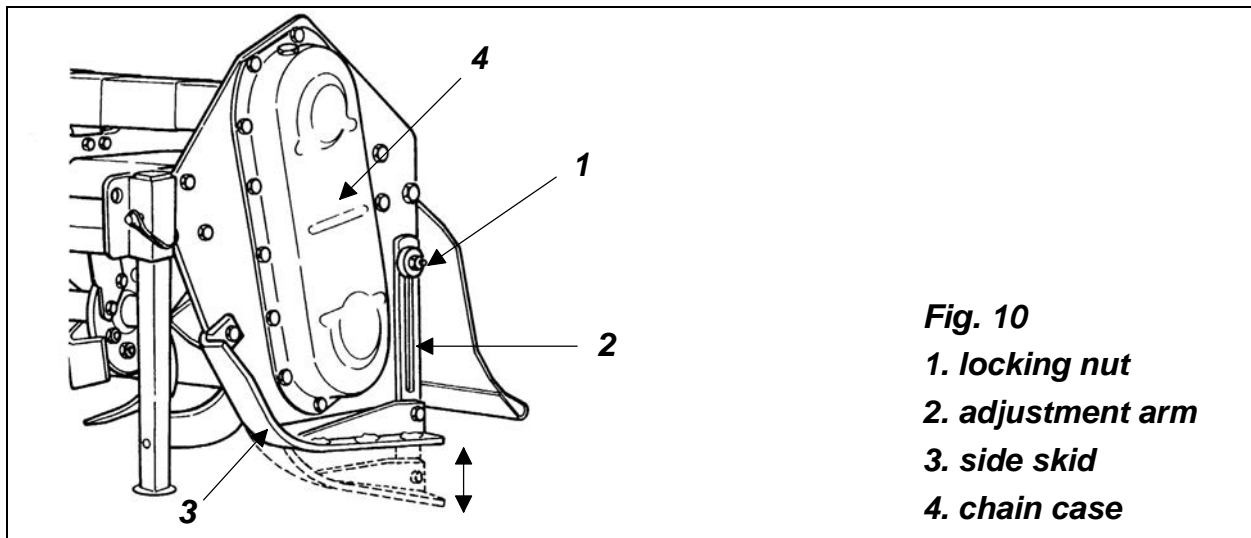

Fig. 10
1. Loosen the nut (**see #1, fig. 10**) on the adjustment arm (**see #2, fig. 10**).
2. Place the skid (**see #3, fig. 10**) in the desired position.